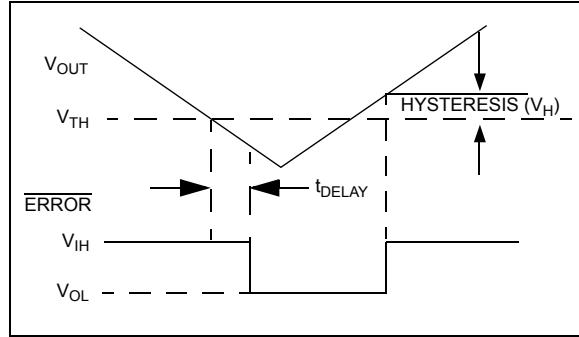

FIGURE 4-2: $\overline{\text{ERROR}}$ Output Operation.
$\overline{\text{ERROR}}$ is driven low whenever V_{OUT} falls out of regulation by more than -5% (typical). This condition may be caused by low input voltage, output current limiting, or thermal limiting. The $\overline{\text{ERROR}}$ output voltage value (e.g. $\overline{\text{ERROR}} = V_{OL}$ at 4.75V (typical) for a 5.0V regulator and 2.85V (typical) for a 3.0V regulator). $\overline{\text{ERROR}}$ output operation is shown in Figure 4-2.
- Changed Figure 4-2.